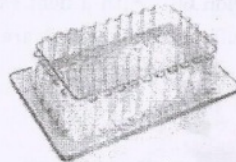

Fig. 16b Plastic food container
- (b) With a neat sketch, explain the process of manufacturing the plastic food container shown in Fig. 16b using thermoforming technique.